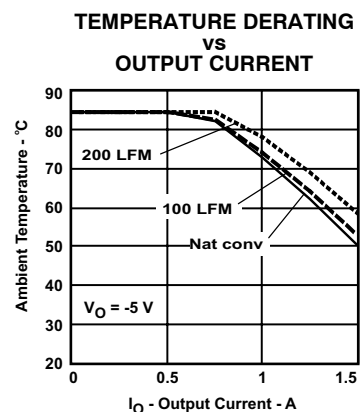
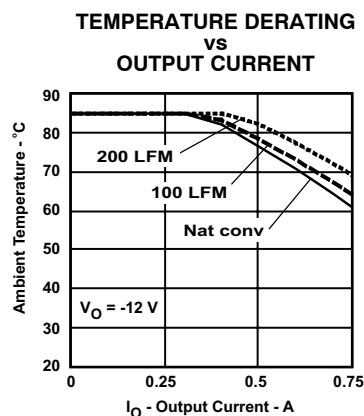
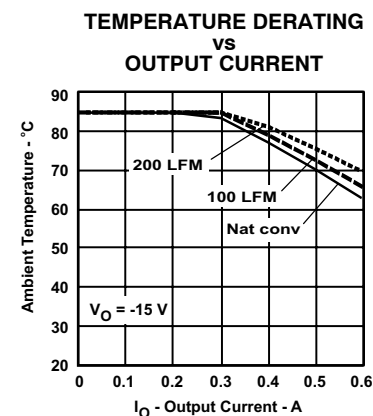

Figure 4.
Figure 5.
Figure 6.
- (2) The temperature derating curves represent the conditions at which internal components are at or below the manufacturer's maximum operating temperatures. Derating limits apply to modules soldered directly to a 100 mm x 100 mm, double-sided PCB with 2 oz. copper. For surface mount packages, multiple vias (plated through holes) are required to add thermal paths to the power pins. Please refer to the mechanical specification for more information. Applies to Figure 4, Figure 5, and Figure 6.